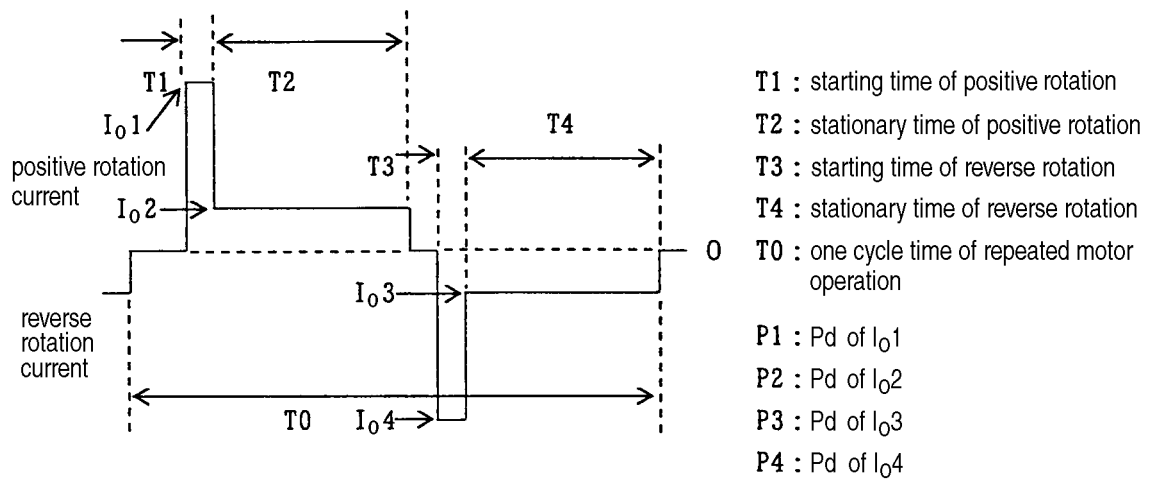
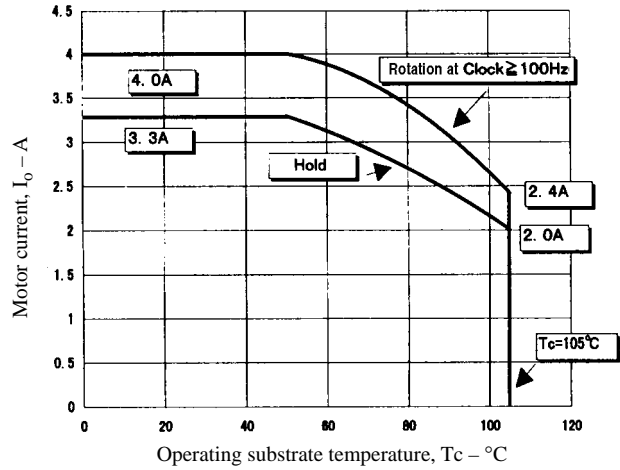

Figure 3. Timing Chart of Motor Operation
Figure 6. Pd – I_o
The size of a heat sink varies depending on the average power loss Pd in the hybrid IC. As shown in Figure 6 on page 14, Pd increases in accordance with the increase of the output current.
Since the starting current and the stationary current coexist in an actual motor operation, Pd cannot be obtained only from the data shown in Figure 6. Therefore, Pd is obtained assuming that the timing of the actual motor operation is a repeated operation shown in the following Figure 3.
The average power loss Pd in the hybrid IC upon an operation shown in Figure 3 can be obtained by the following equation (II):